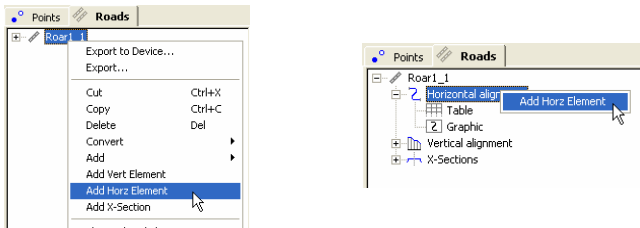

Figure 9-33. Adding Horizontal Element Through the Left Panel
- In the left panel, right-click the road or the horizontal alignment and click **Add Horz Element** (Figure 9-33).